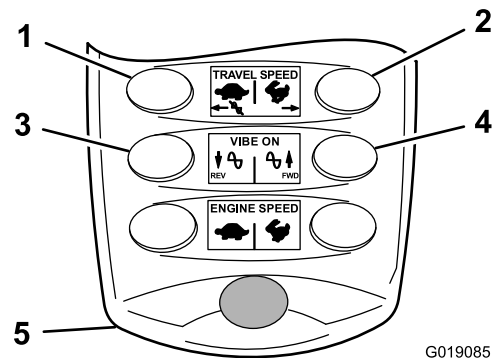

Figure 45
- Start the vibration function in the forward direction by pressing and releasing the forward-vibration button (Figure 45).
- Start the vibration function in the reverse direction by pressing and releasing the reverse-vibration button (Figure 45)